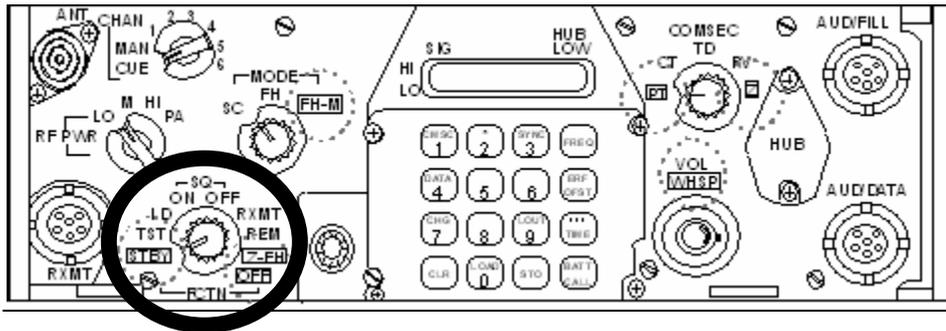

Figure 2. Face of Receiver
Receiver-Transmitter (RT) - most of the controls that the operator will use are placed on the face of the RT (see figure 2).